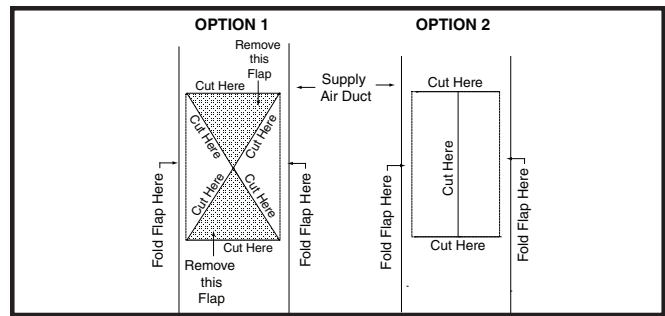

Figure 12. Narrow Air Duct Openings
1. Score and cut the top of the supply air duct as indicated in Option 1 or Option 2. See Figure 12 \(page 9\). **NOTE:** If Option 1 is selected, cut out the metal from the shaded area.